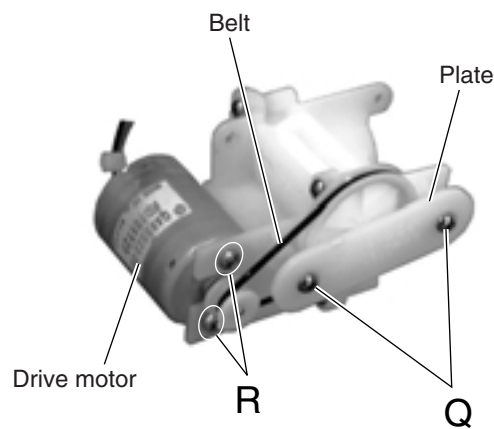

Fig.26
■ Removing the belt and the drive motor (See Fig.26)